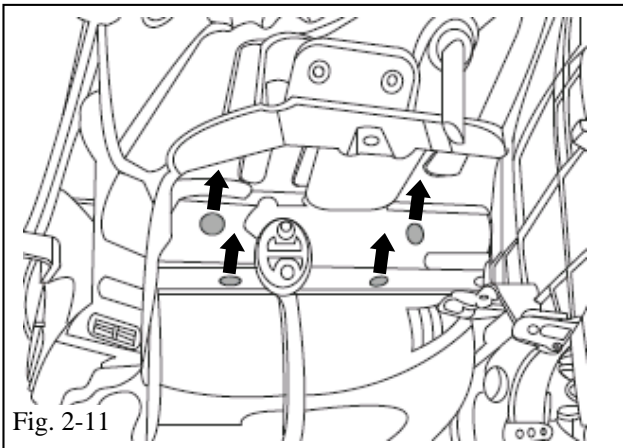

Fig. 2-11
- (k) Remove the four hole plugs from the RH chassis rail and discard them (Fig. 2-11).